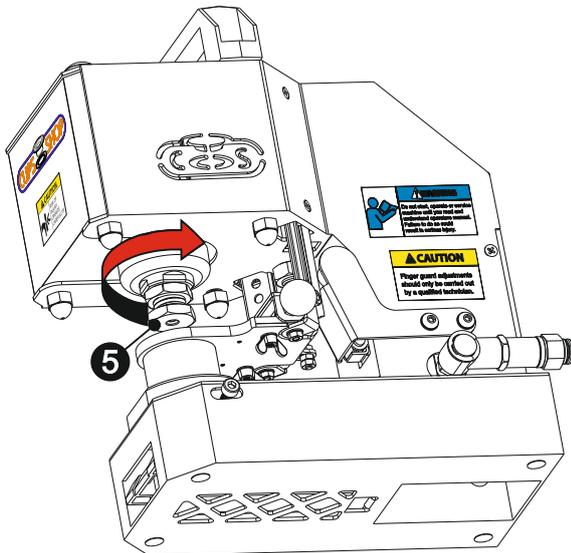

fig. 45
Install the upper die adaptor ❺ by rotating it in the arrow direction as shown in above (fig. 45).